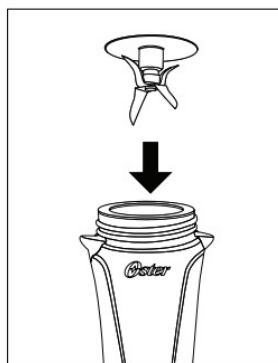

Figure 3
3. Turn the blade upside-down and place onto the opening of the cup. (Figure 3)